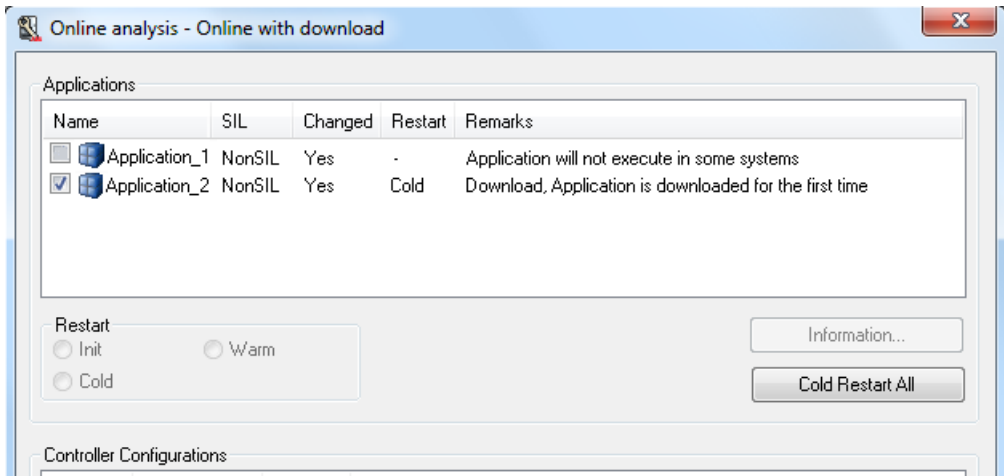

Figure 82. Connected applications to a controller. Only Application 2 will be downloaded.
2. Select the application to be downloaded. See the example in Figure 82.